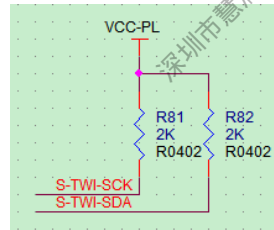

Figure 2-53 I2C Circuit Design
- The I2C of the SENSOR needs to connect to pull-up resistors and cannot delete them, as shown in Figure 2-53.